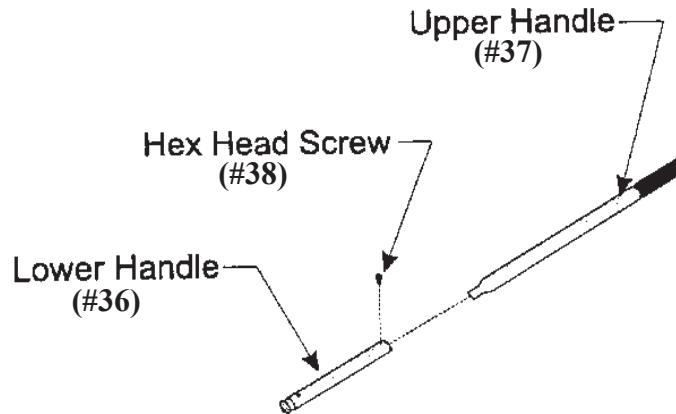

Figure 1 -- Handle Assembly
Step 3: Insert HEX HEAD SCREW and tighten with a 10mm wrench as shown in Figure 1.